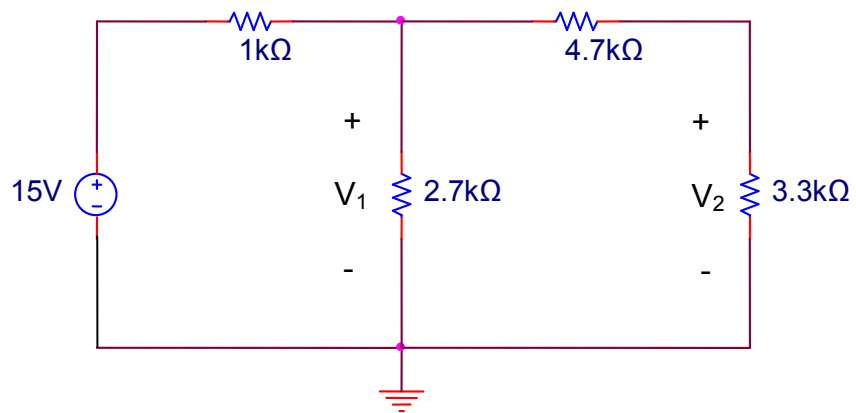

Figure 3.7
5. Use voltage division to calculate V_1 and V_2 for the circuit in Figure 3.7. Enter your results in Table 3.5.
4. Construct the circuit of Figure 3.7. Measure V_1 and V_2 using the DMM only. Calculate the % error. Enter your results in Table 3.5.